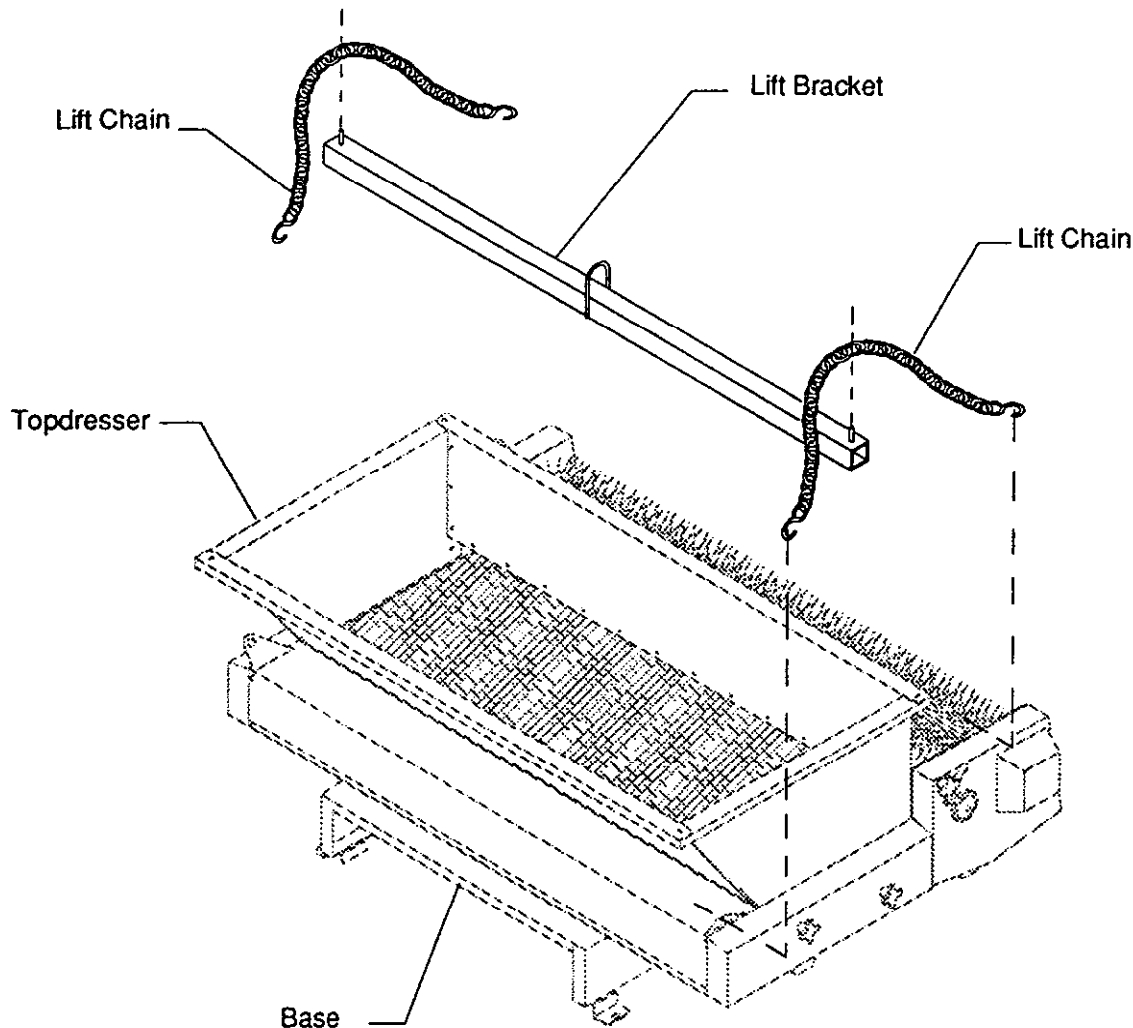

Figure 5
## INSTALL OPTIONAL LIFT ASSEMBLY (Fig. 5)
2. Attach the chains as shown in Fig. 5.